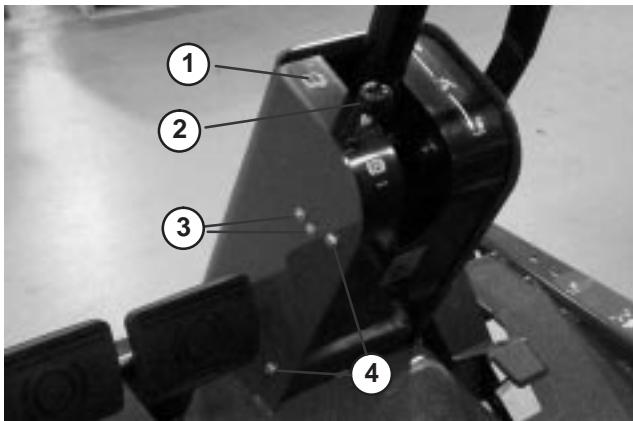

Figure 48
2. Remove knob from parking brake rod and screws from steering tower cover (Fig. 48).
4. Loosen screws and nuts securing parking brake switch to left side of steering tower (Fig. 48).